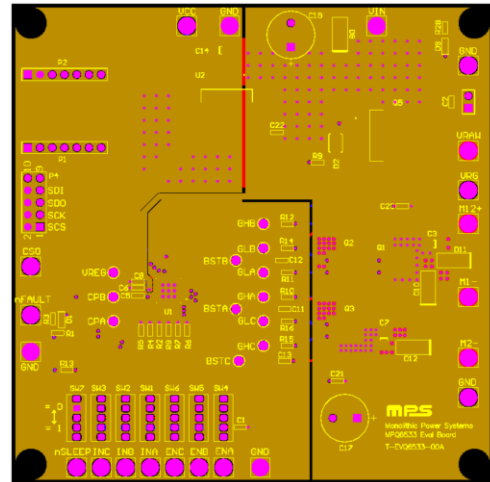
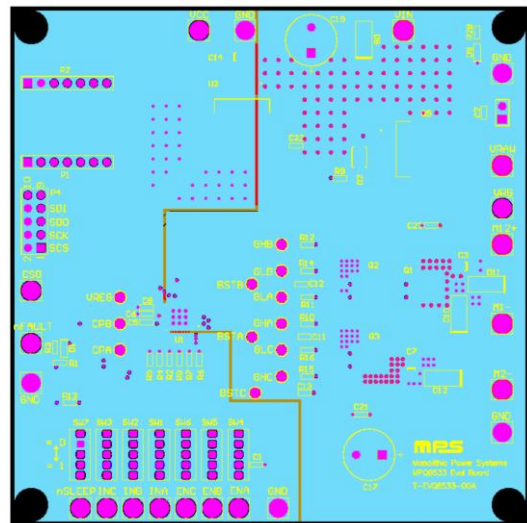

Figure 10: Recommended PCB Layout with a Power Plane
Figure 11: Recommended PCB Layout with a Power Plane
A second example for the PCB layout uses a power plane. Four layers are used to provide solid planes for the ground and supply voltage. For the best results, refer to Figure 10 and Figure 11, and follow the guidelines below:
1. Route VIN on the right portion of the plane, and connect it to the MOSFET’s input power and bulk capacitors (C17 and C19). The left portion of the plane is used as a redundant ground plane (see Figure 10).
3. Route the MOSFETs away from the rest of the circuitry. The two planes meet underneath the MPQ6533 (see Figure 11).